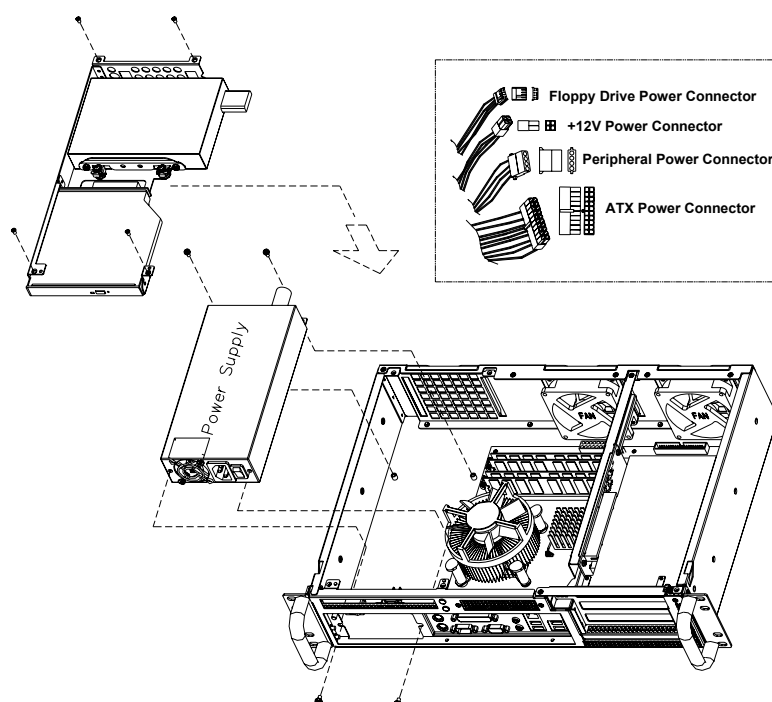

Figure 3.3 Replacing the power supply
IPC-603MB supports a single 1U-high power supply. To replace the power supply, refer to Figure 3.3 and proceed as follows:
4. Refer to Figure 3.3 to remove the drive bay.